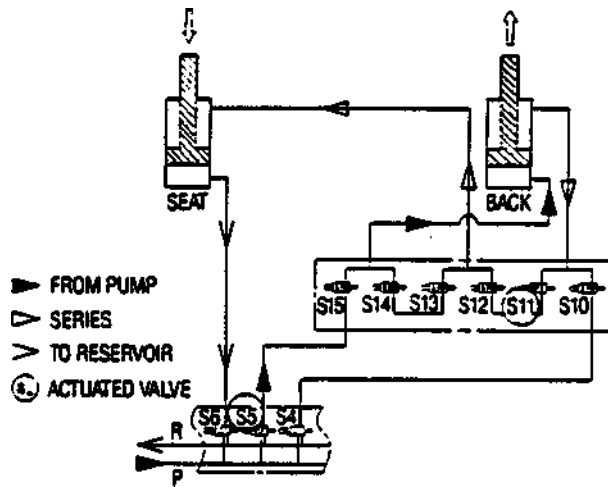

Figure 6-20. Reverse Trendelenburg Schematic
• **Trendelenburg/Reverse Trendelenburg** (Figures 6-20 and 6-21)